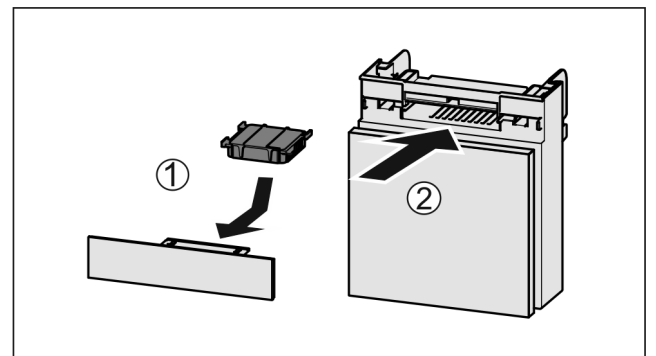

Fig. 158
- ▶ Insert the carbon filter as shown in the diagram Fig. 158 (1).
- ▶ Push the compartment in Fig. 158 (2).